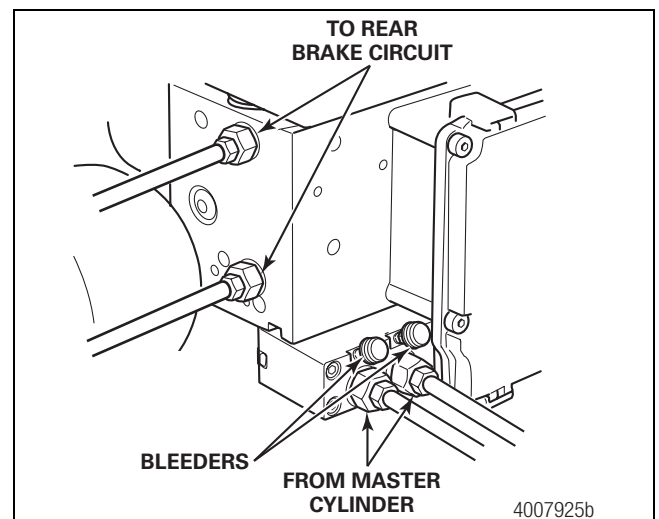
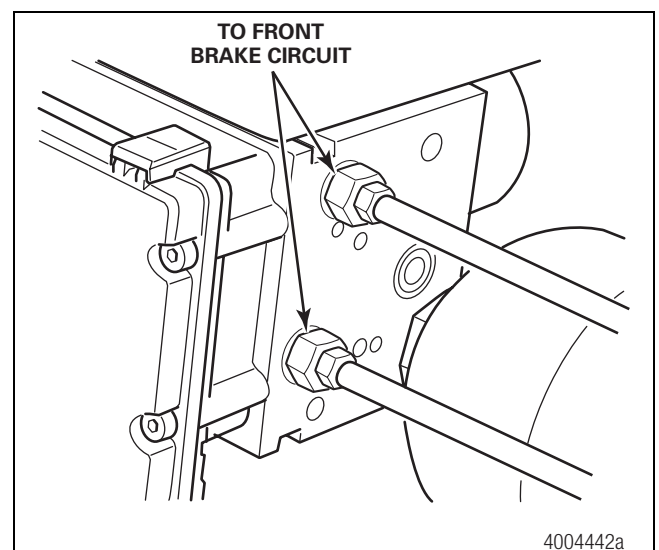

Figure 10
Figure 11
5. Thoroughly clean the area around the two relay valve fittings. These attach the two brake lines from the master cylinder to the HCU. Figure 10 and Figure 11.
1. Thoroughly clean the area around the five remaining brake line fittings before beginning the removal procedure. Figure 10 and Figure 11.
2. Connect the six brake lines to the new HCU. Remove the protective cover before attaching the line. Check the line markers to ensure correct installation on the HCU. Figure 10 and Figure 11.